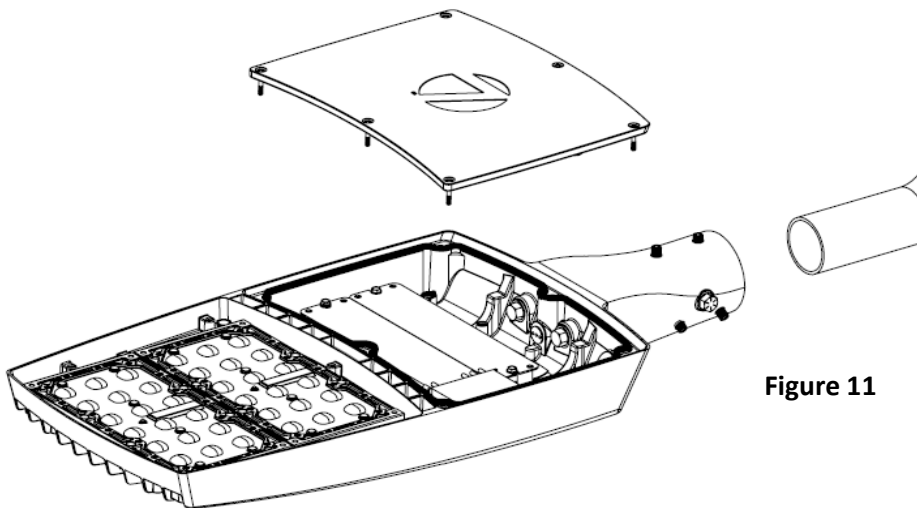

Figure 11
7. Make sure that wires and door tethers are not pinched, and that the door gasket is still snugly in its groove on the door. Reinstall the mounting door (Fig 11) that was re- moved, tighten the six captive screws with the 5/32 Allen wrench to 25-30 in-lbs. (overtightening can cause thread stripping and void all warranties).